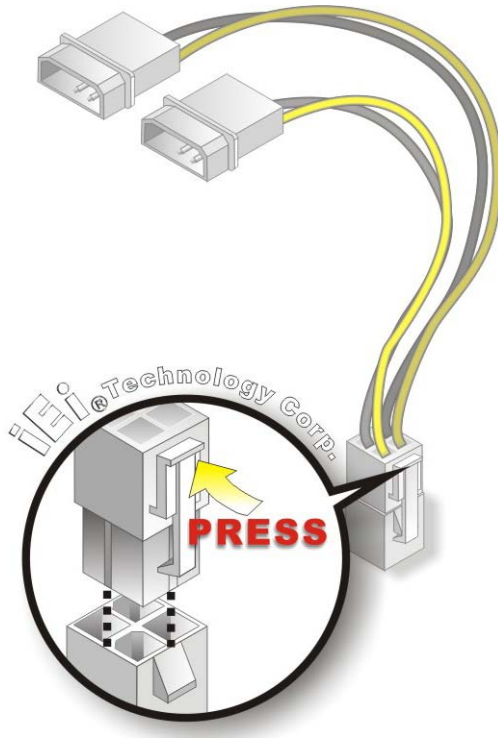

Figure 4-10: Power Cable to Motherboard Connection
Step 2: Connect the Power Cable to the Motherboard. Connect the 4-pin (2x2) Molex type power cable connector to the AT power connector on the motherboard. See Figure 4-10.